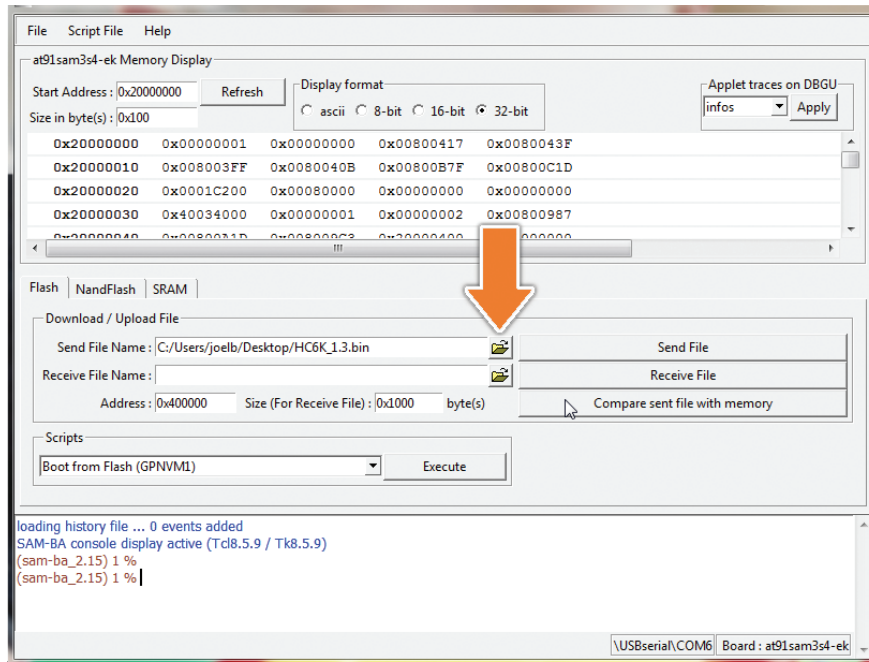

Fig. 44-2 Open the Latest Code Window
8. Click the “open folder” button on the right of textbox “Send File Name” to open the latest code, please see Figure 44-2. You will then have to locate the .bin file that you downloaded from the website and then hit open.